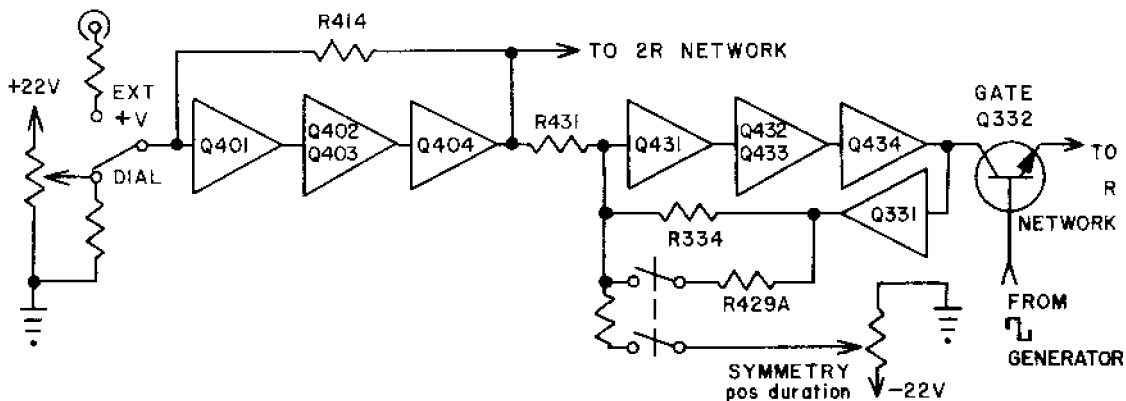

Figure 4. VC Amplifiers and Symmetry Control
4.2 VC AMPLIFIERS AND SYMMETRY CONTROL (See Figure 4)